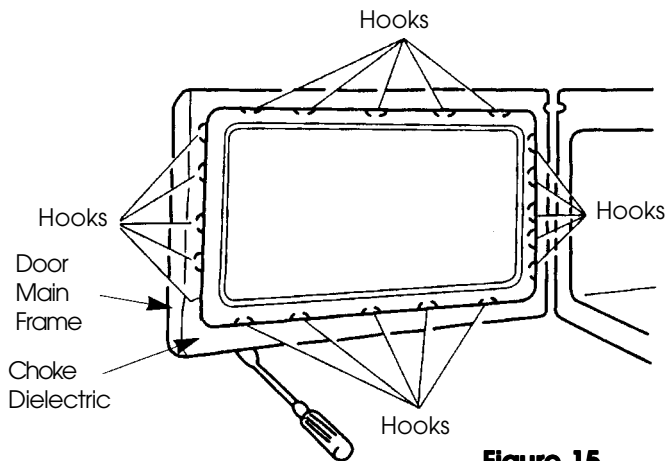

Figure 15
(Figure 15)
- (1) Insert a thin flat-blade screwdriver between the choke dielectric and the door main frame and lift up the choke dielectric to release hooks one by one. (Figure 15).
- (2) Remove the choke dielectric.
- (3) To detach the door cover, insert a thin flat-blade screwdriver between door cover and door panel and release the projections inside door cover.
- (4) To detach the door panel, insert a thin flat-blade screwdriver between the door cover and door main frame.